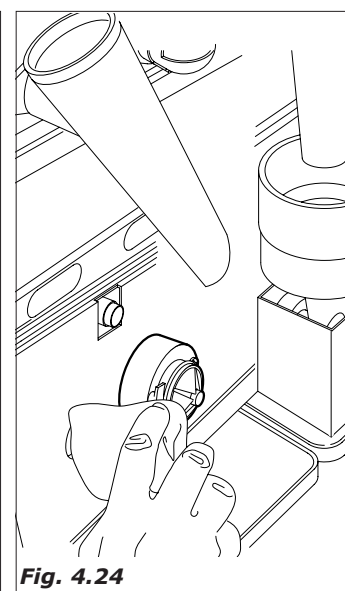

Fig. 4.24
- with a cloth soaked with the solution clean the whipper assembly base (Fig.4.24)